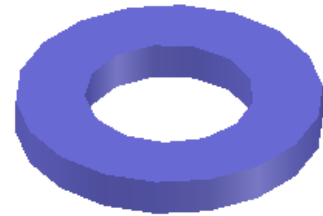

Figure Step 3A
Step 3 On layer: Solid Washer, create a solid model of the Washer. (Figure Step 3A and 3B)